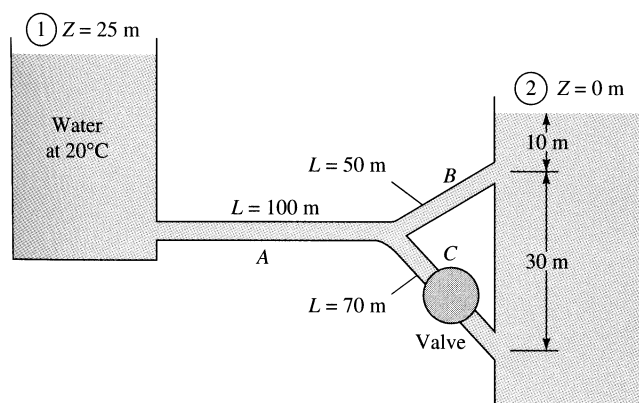

Fig. P6.115
6.115 In Fig. P6.115 all pipes are 8-cm-diameter cast iron. Determine the flow rate from reservoir (1) if valve C is (a) closed; and (b) open, with $K_{\text{valve}} = 0.5$.